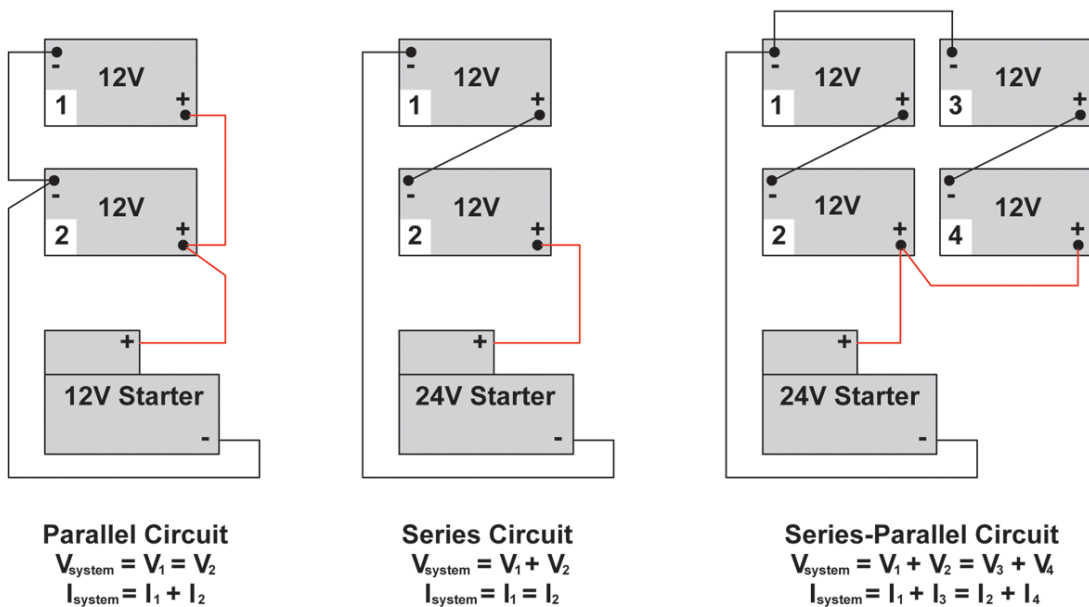

Figure 11-1: Battery Circuits
To obtain the proper system voltage and meet minimum cranking ampere and reserve capacity requirements, multiple batteries may need to be connected to one another. Parallel, series, and series-parallel battery circuits and the respective effect on voltage (V) and amperage (I) are illustrated in Figure 11-1.